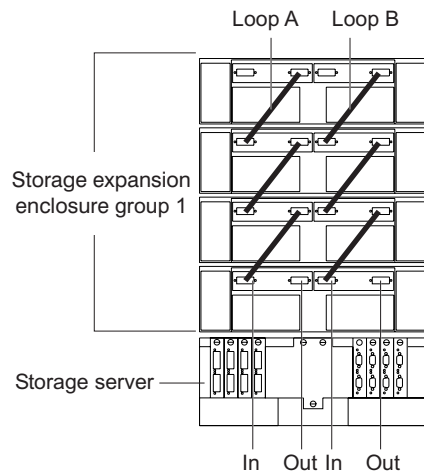

Figure 32. Connecting additional storage expansion enclosures to drive loops A and B
3. Connect additional storage expansion enclosures to drive loops A and B, as shown in Figure 32.